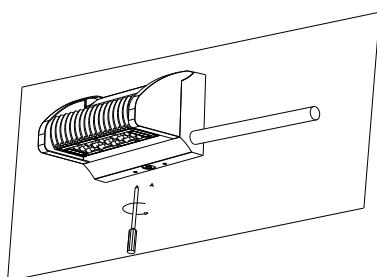

Figure 2-5
5. Tighten the pipe on the luminaire; after installation, tighten the screws.(Figure 2-5)